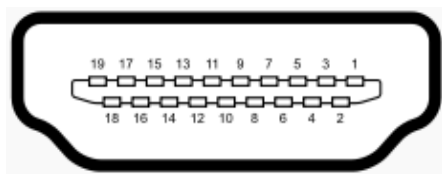

Figure 3-19: HDMI Connector Pinout Locations
- CN Pinouts:** See **Table 3-15** and **Figure 3-19**